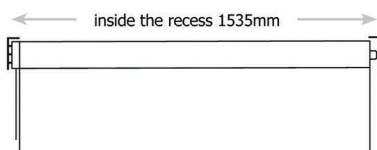
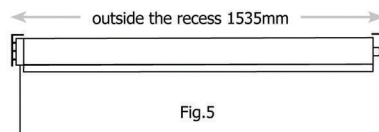

Fig.4
Fig.5
3. Use this figure to position the outside of your brackets accordingly whether inside of the recess (Fig.4) or outside of the recess (Fig.5)